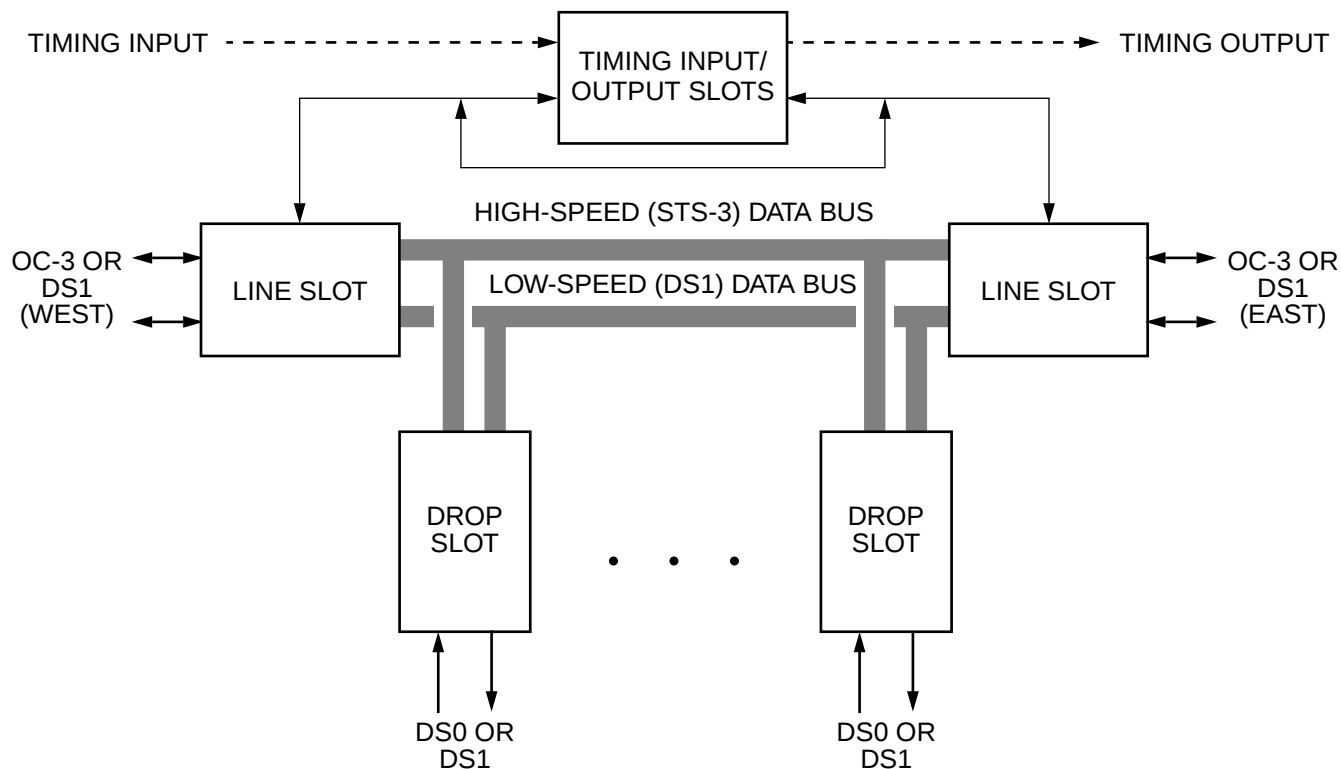

Figure 2. Block Diagram
3.07 Figure 2 shows a simplified block diagram of the SECURE7 shelf. The shelf may be connected to optical OC3 traffic or electrical DS1 traffic, depending on the line card installed.